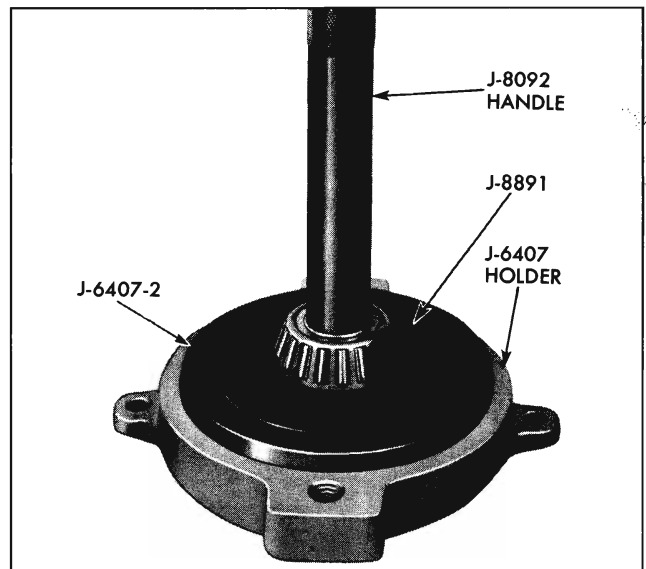

Fig. 4-36 Removing Front Pinion Bearing
2. Remove front pinion bearing—press off using J-8891 in J-6407 holder and J-8092 handle (Fig. 4-36).